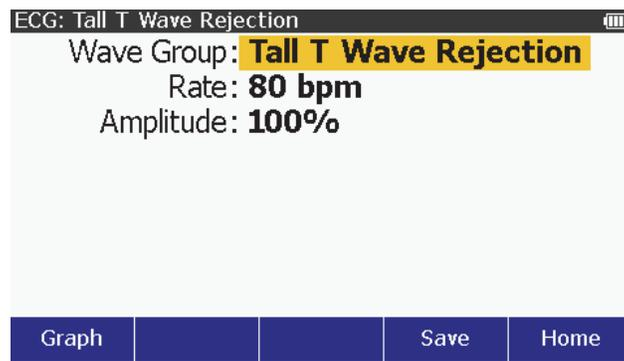

Figure 11. Tall T Wave Rejection Screen
5. Push  to show the ECG: Tall T Wave Rejection in Figure 11 on the display.